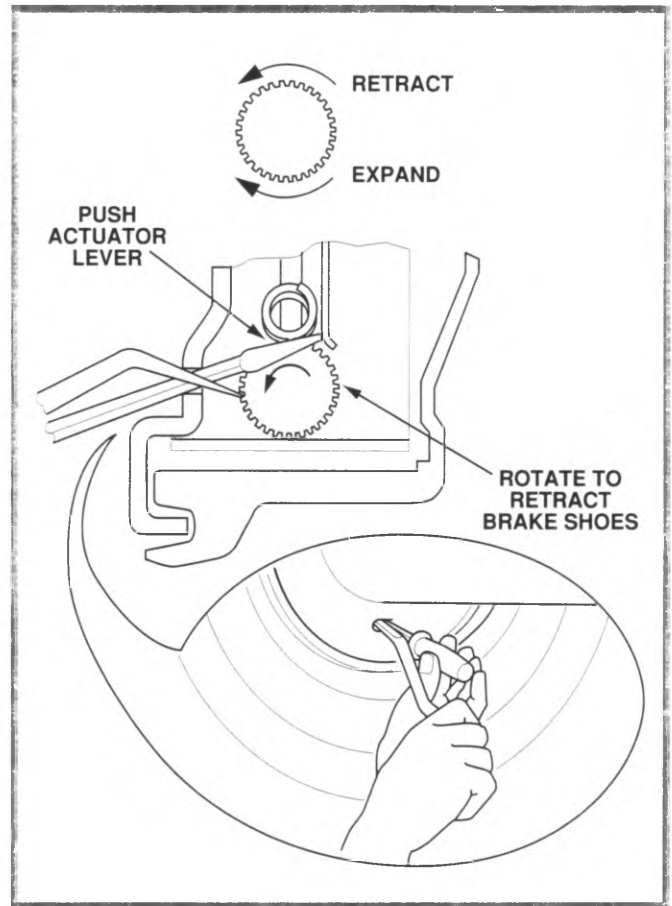

Figure 5-10, Backing Off Brake Adjustment
- Remove the adjusting hole plug or knockout plate from the backing plate and back off the adjusting screw using a screwdriver and brake adjusting tool (figure 5-10).